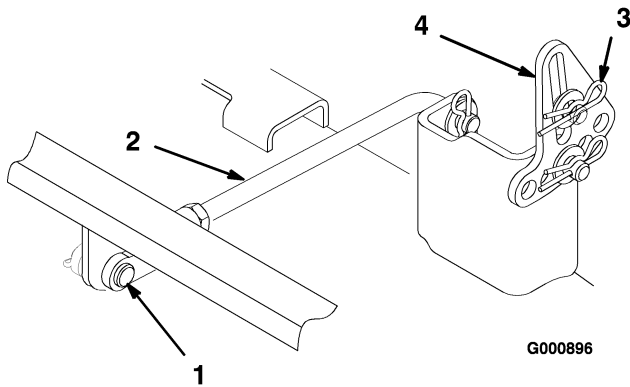

Figure 49
6. Remove the hairpin cotter and clevis pin from the rear trunion rod (Figure 49) on each side of the mower.
7. Remove the hairpin cotter and washer at the mower leveling brackets (Figure 49) on each side of the mower. Note which hole the leveling bracket is mounted in for future installation. Slide the brackets off of the mounting pin.
6. Attach the rear trunion rod to the tractor with the clevis pin and hairpin cotter (Figure 49) on each side of the mower.
7. Slide the leveling brackets onto the mounting pins and secure them with the washers and hairpin cotters (Figure 49).